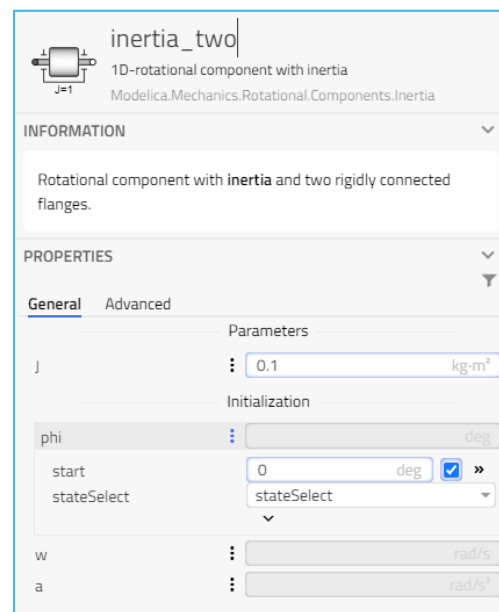

Figure 13 Renaming a component
**Note:** It is possible to rename the components in the *Details Panel*, see **Figure 13**.